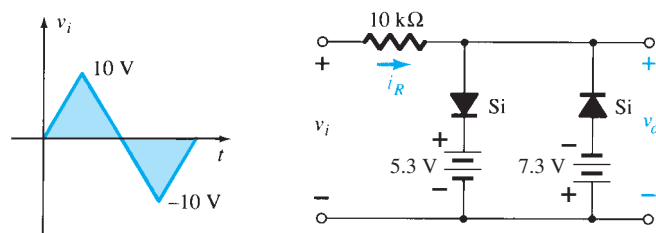

FIG. 2.180
36. Sketch i_R and v_o for the network of Fig. 2.180 for the input shown.